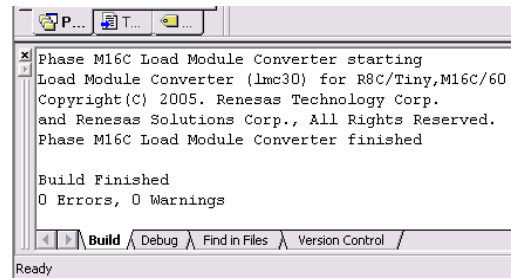

Figure 9: HEW Build Complete
- h.) Click the “Build” icon  to compile, assemble and link the project. After the build is complete, the HEW Build window will look similar to Figure 9.